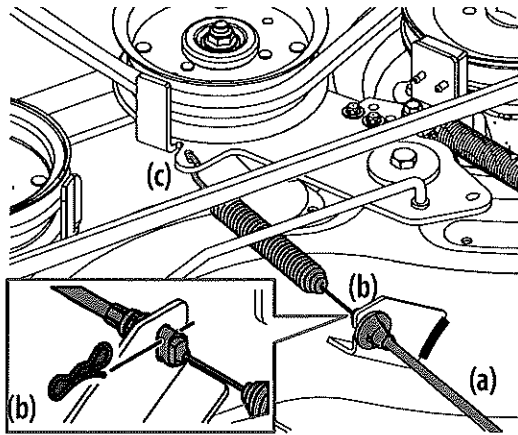

Figure 31
10. Carefully remove the PTO cable (a) from the rear of the cutting deck by removing the bow-tie clip (b) which secures it. Remove the spring (c) from the deck idler bracket. See Figure 31.